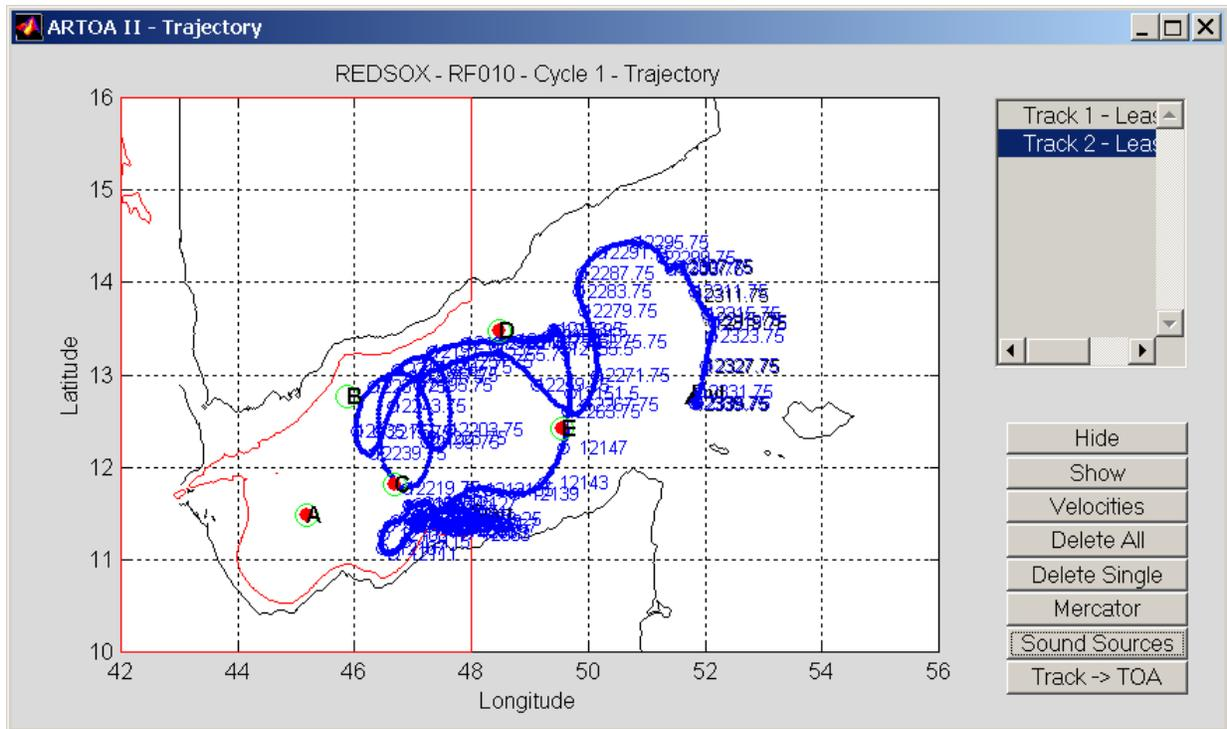

Figure 9: Trajectory window, with sources.
The resulting track will be displayed in a new figure (Figure 9), using a square projection. “Track → Trajectory output” will produce the same figure. Each record tracked is represented by a dot. Every four days along the track a larger circle is labeled with the truncated Julian day (to modify this interval, change variable “dateint” at the beginning of ‘uitraj.m’). Earlier tracks are gray (not visible in Figure 9); the latest track is blue. The launch and surfacing positions of the float are indicated by an open down-arrow labeled "Start" and a filled up-arrow labeled "End". The “best” trajectory is usually the one that comes closest to the “start” and “end”. To exclude bathy-metry and coastlines, modify ‘uitraj.m’.
- Sound Sources - changes scale as needed and displays sound sources used for the current trajectory as filled circles. Any other sources that are on the plot will be open circles (Figure 9). To remove sources, toggle Mercator/Normal button.